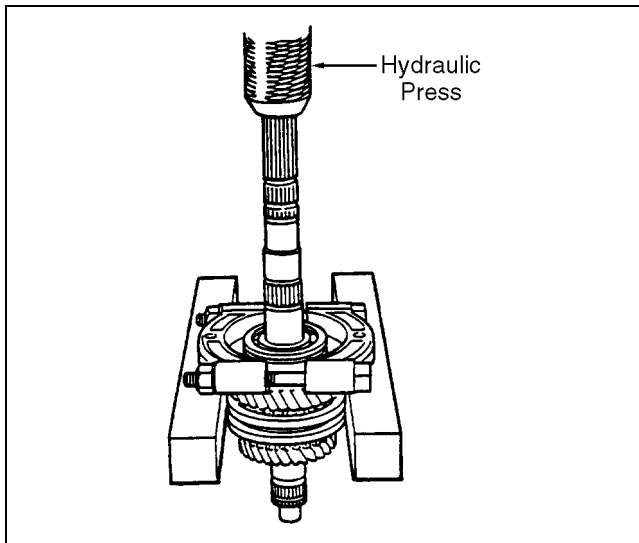

Figure 4H-11. Main Shaft ó Step 7
8. Remove low gear, needle bearing and synchronizer ring from main shaft as shown in Figure 4H-9.